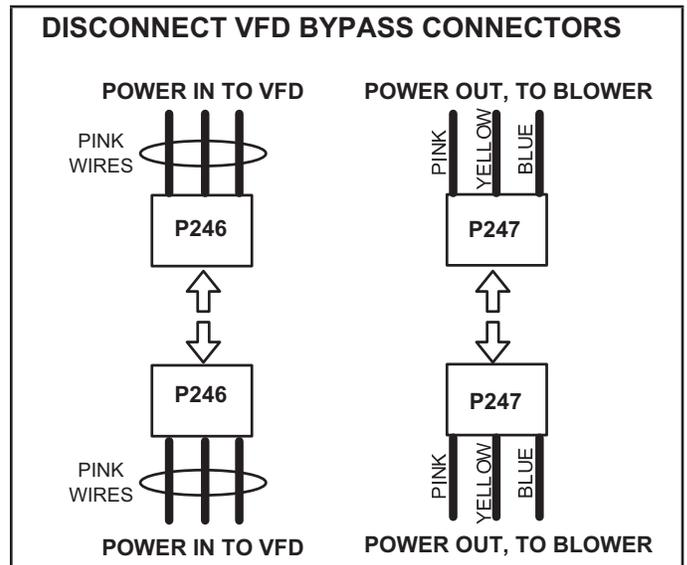

FIGURE 25
- 3 - Disconnect P246 from P246 (power in to VFD) and P247 from P247 (power out to blower). See FIGURE 25.